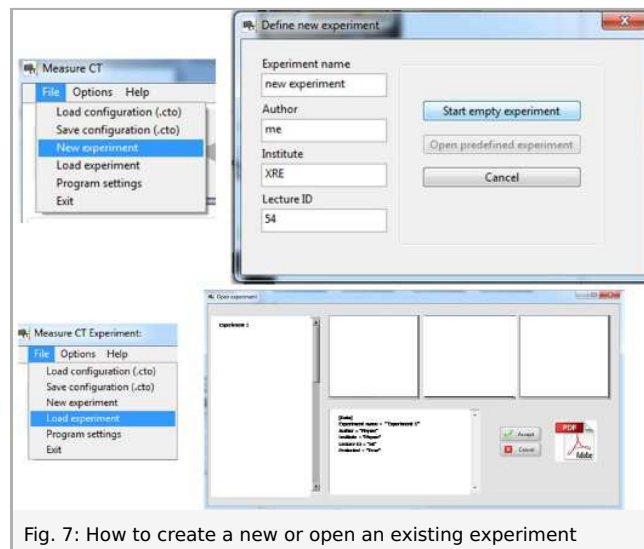

Fig. 7: How to create a new or open an existing experiment
- Start a new experiment, give it a unique name and fill in your details (Fig. 7). Alternatively it is also possible to load this experiment with pre-recorded images and open this manual. The correct configuration will be loaded automatically as well but the functionalities of the software will be limited to avoid overwriting the existing data.